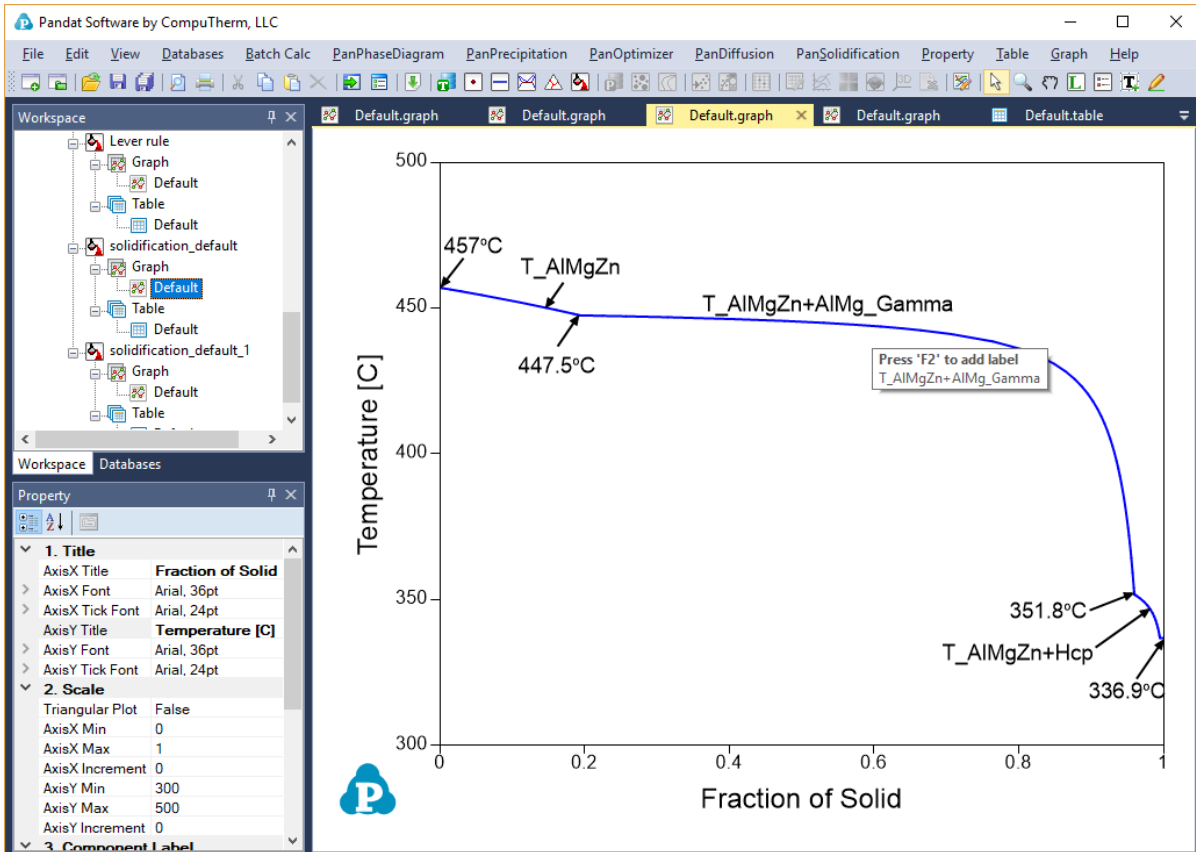

Figure 1.8.2: Fraction of solid as a function of temperature from Scheil simulation
- Figure 1.8.2 shows the fraction of solid as a function of temperature from Scheil simulation. Solidification starts at 457°C and ends at 336.9°C, the freezing range is 120.1°C;
- The primary solidified phase is T_AlMgZn phase, AlMg_Gamma starts to solidify at 447.5°C and Hcp starts to solidify at 351.8°C. Put the cursor on the line segment, a tool tip will pop out showing the phase(s) solidified in that composition and temperature range (Figure 1.8.2). Press 'F2' to label it;
- Figure 1.8.7 shows the overlapped plots from Scheil simulation and Lever rule simulation. To merge two plots together, we first open the plot from **Lever** rule simulation as shown in Figure 1.8.6, right click the mouse and choose "Copy Data", then open the plot from **Scheil** simulation as shown in Figure 1.8.2, right click the mouse and choose "Paste Data". The two plots from Lever rule simulation and Scheil simulation are merged in the same diagram as shown in Figure 1.8.7;